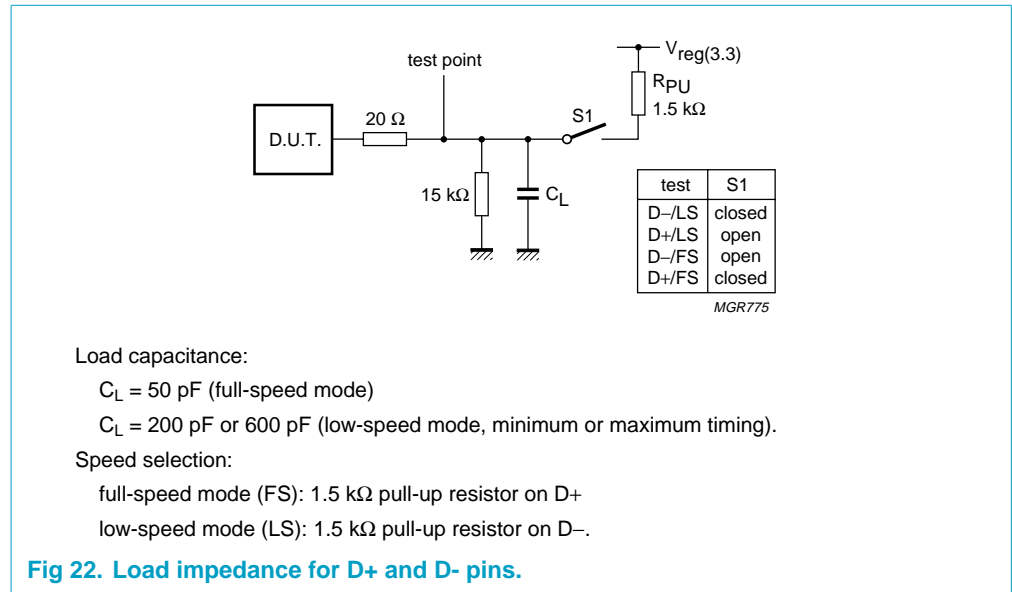

Fig 22. Load impedance for D+ and D- pins.
[1] Test circuit: see Figure 22.
- [1] Test circuit: see Figure 22.
The dynamic characteristics of the analog I/O ports (D+ and D-) as listed in Table 32 and Table 33, were determined using the circuit shown in Figure 22.